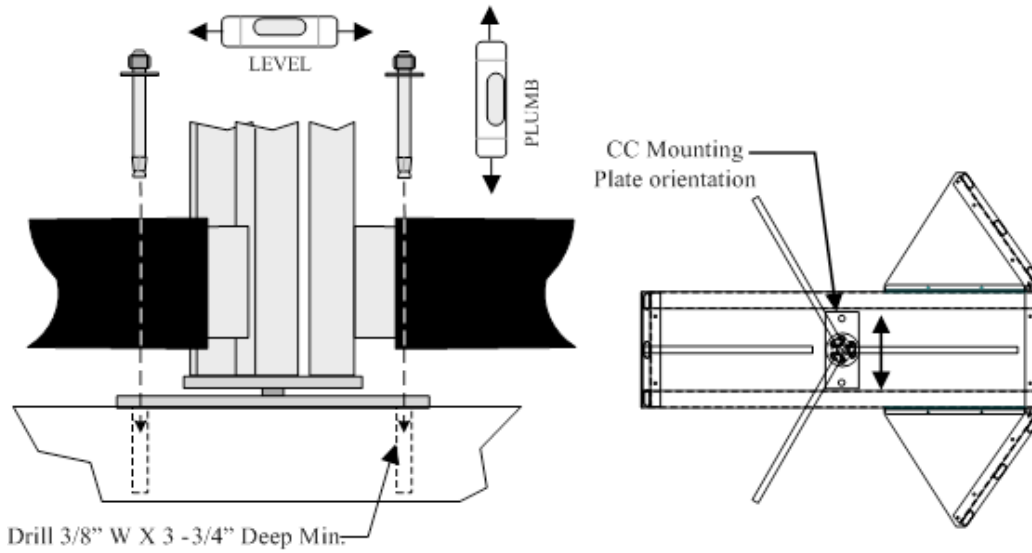

Figure ST-30 Anchor the Spindle Pivot Mount
- SQUARE and PLUMB the Spindle Arm Sections (Figure ST-30 below).
- Anchor the Spindle Pivot Mount Plate (Figure ST-30 below).